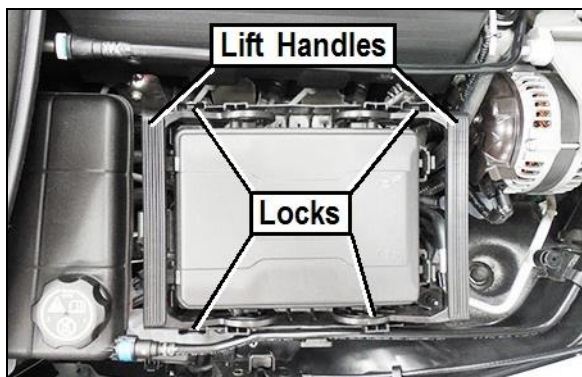

Figure 1
- B) Unlock the lift handles on the module (**Figure 1**). Raise the handles and lift the module from the connectors. Take pictures here for reference.